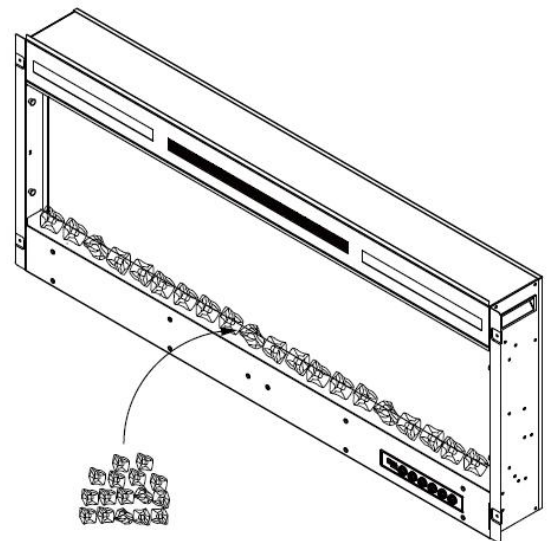

Figure 2.(Crystal medias)
D. Then carefully place crystal embers into the bottom tray on the front of the appliance as illustrated. Apply an even layer from side to side. Figure 2.